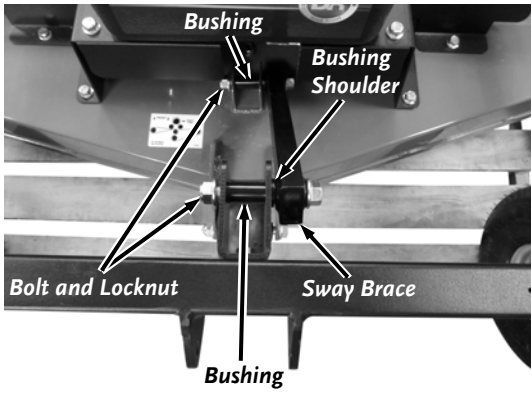

Figure 11
8. Install the Bushing into the Bracket at the front of the Frame with the long portion of the Bushing fully into the Frame Bracket (**Figure 11**). The Bushing shoulder should be tight against the Bracket.